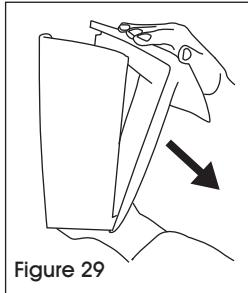

Figure 29
2. While pushing the release latch, open the dispenser by placing your other hand on the top, and guide the front cover forward. (See Figure 29)